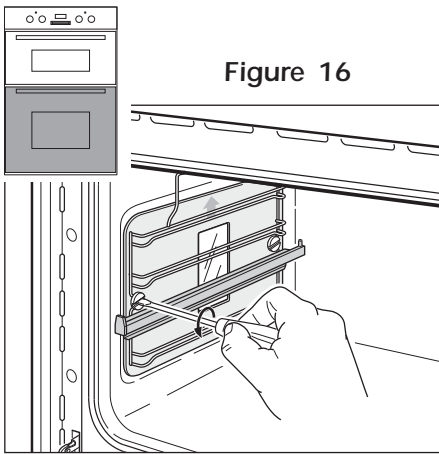

Figure 16
- Remove the side racks by unscrewing the fixing screws (Figs. 16 - 17).